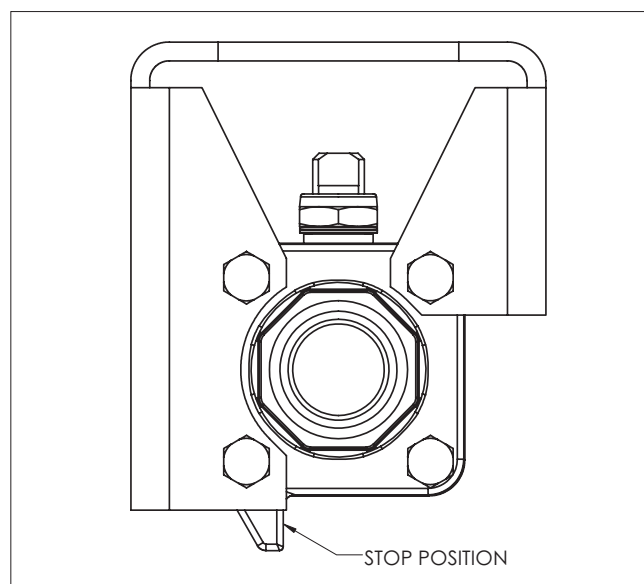

Figure 6. Stop Position for Actuated Valve
Although *Jamesbury* valves are designed to work under severe conditions, proper preventative maintenance can significantly help to prevent unplanned downtime and in real terms reduce the total cost of ownership. Valmet recommends inspecting valves at least every five (5) years. The inspection and maintenance frequency depends on the actual application and process condition. Routine maintenance consists of tightening the hex nuts (16) in (Figure 6) periodically to compensate for stem seal wear. The valve should be fully closed during the tightening. **CAUTION:** Tightening hex nuts (16) too severely will shorten the life of the shaft seals.
- c. From **Figure 6**, the ballooned part number, part name and quantity required.
8. Insert the second seat (5) in the body cap (2) so that the sealing surface of the seat is towards the ball (see detailed diagram in Figure 6).
9. Assemble the body cap (2) to the body (1). Insert the four body bolts (52). The bolt heads should be on the body cap.
NOTE: The handle stop is part of the body cap (2). When assembling the valve, be sure the handle stop that projects from the body cap is in the upper right corner as the body cap faces you (see Figure 6).
10. Place the four lock washers (55) over the body bolts (52). Thread on the four hex nuts (53) and tighten until snug.
11. Assure that the body and body cap are properly aligned. Tighten the body bolts alternately in a diagonal pattern in 2 lb.-ft. increments until achieving torque values in the Recommended Torques for Body Bolt Table in Figure 6.
9. Assemble the body cap (2) to the body (1).
11. Insert the four body bolts (52). The bolt heads should be on the actuator bracket. Place the four lock washers (55) over the body bolts (52). Thread on the four hex nuts (53) and tighten until snug.
12. Assure that the body and body cap are properly aligned. Tighten the body bolts alternately in a diagonal pattern in 2 lb.-ft. increments until achieving torque values in the Recommended Torques for Body Bolt Table in Figure 6.
3. Slightly loosen Body Bolts (52) securing bracket. This will allow the bracket to be manipulated for alignment purposes.
4. Ensure Body and Cap are still properly aligned. Visually straighten the actuator over the valve. Once straight, torque the Hex Head Cap Screws securing the bracket to the valve, using the values in the Recommended Torques for Body Bolt Table in **Figure 6**.